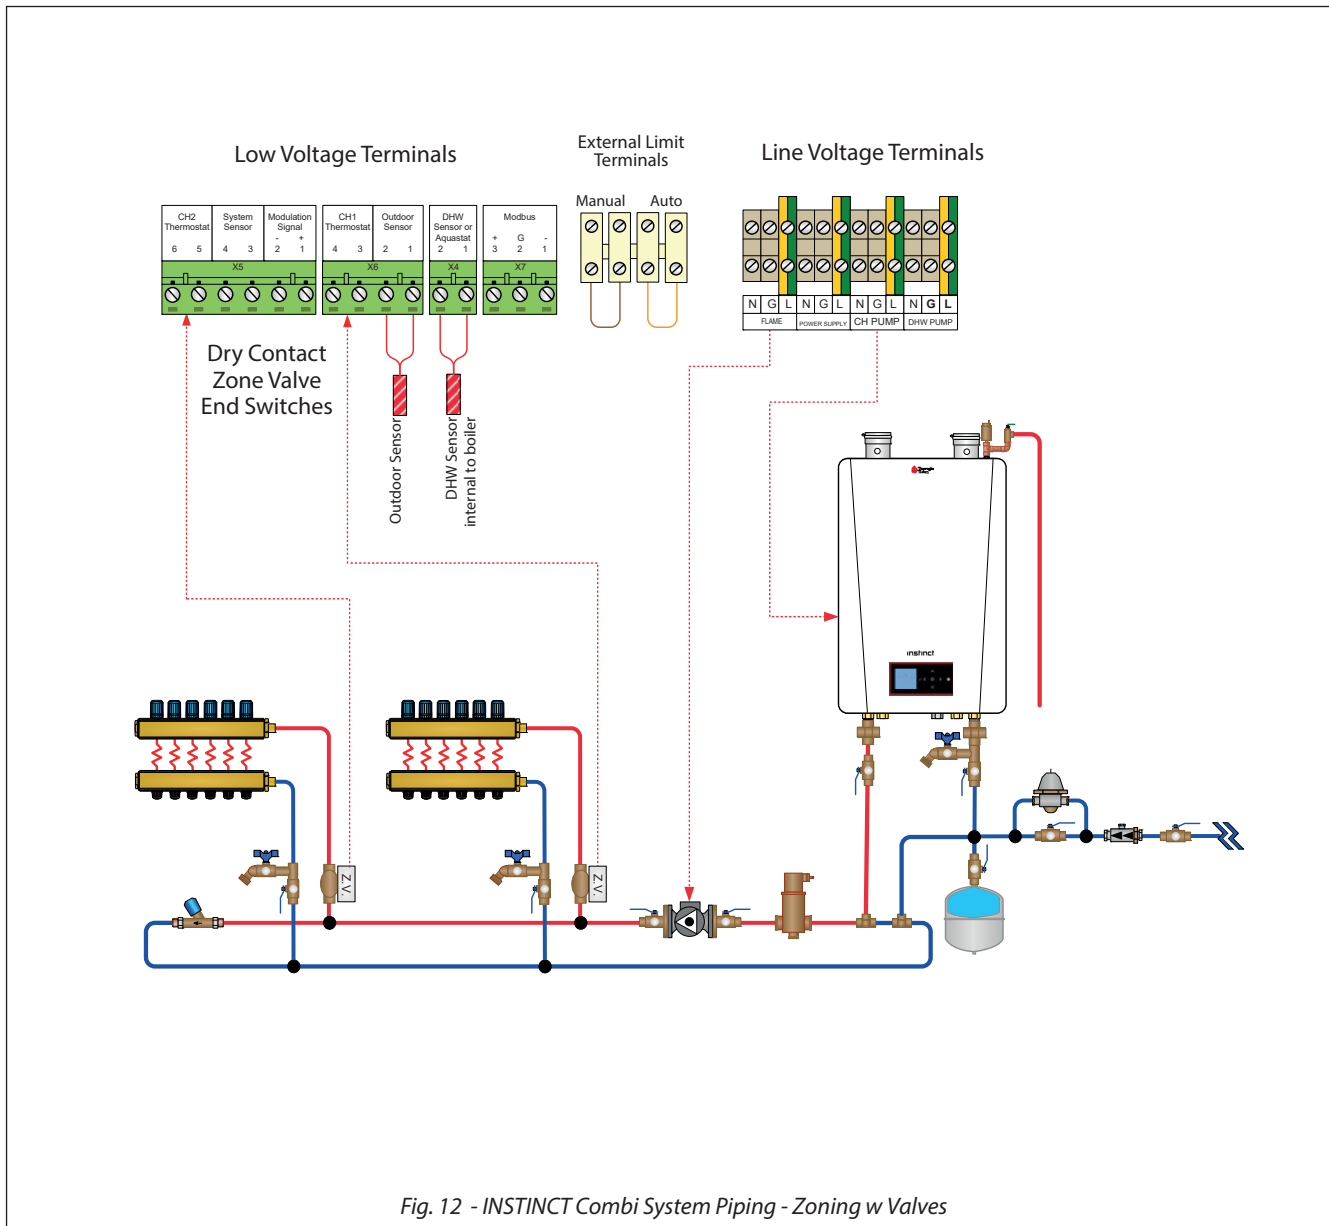
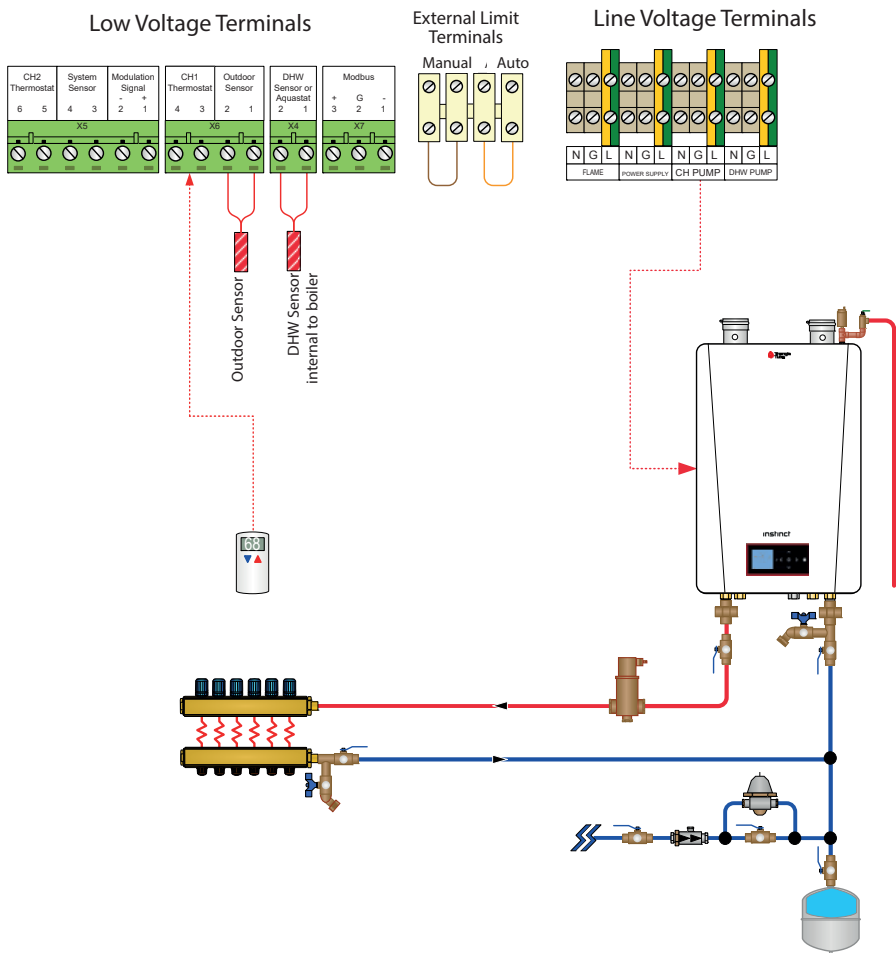

Fig. 12 - INSTINCT Combi System Piping - Zoning w Valves
Fig. 14 - INSTINCT Combi - System Piping - Single Zone with Single Circulator
See *Fig. 12 on page 24 through Fig. 14 on page 26* for recommended piping to a DHW system. This recommended piping configuration ensures priority is given to the production and recovery of DHW.
See *Fig. 12 on page 24 through Fig. 14 on page 26*, for recommended piping arrangements based on various applications. Size the piping and system components required in the space heating system using recognized design methods.
Connect the INSTINCT Combi to the system piping as shown in *Fig. 12 on page 24* when zoning with zone valves.
*Fig. 14 on page 26* illustrates a single zone system utilizing the boiler circulator as the system circulator.